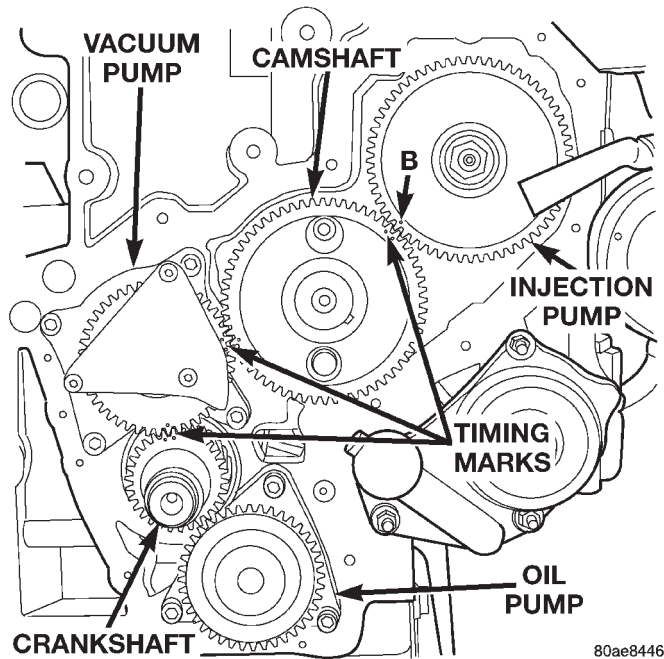

Fig. 14 Vacuum Pump at Front of Engine
(15) Check for air in the fuel system. Refer to the Air Bleed Procedure.
(16) Inspect all fuel supply and return lines for signs of leakage.
(17) Be sure that the ground connections are tight and free of corrosion. Refer to Group 8, Wiring for locations of ground connections.
(18) Inspect the air cleaner element (filter) for restrictions.
(19) Be sure that the turbocharger output hose is properly connected to the charge air cooler (intercooler) inlet tube. Verify that the charge air cooler output hose is properly connected to the cooler and the intake manifold. Refer to Group 11, Exhaust System and Turbocharger for information.
(20) Be sure that the vacuum hoses to the vacuum pump are connected and not leaking. The vacuum pump is located in the front of engine (internal) and is driven from the crankshaft gear (Fig. 14). Disconnect the hose and check for minimum vacuum from the pump. Refer to Group 5, Brake System for specifications and procedures.
(21) Be sure that the accessory drive belt is not damaged or slipping.
(22) Verify there is a good connection at the engine speed sensor. Refer to the Fuel Injection System in this section for location of the engine speed sensor location.